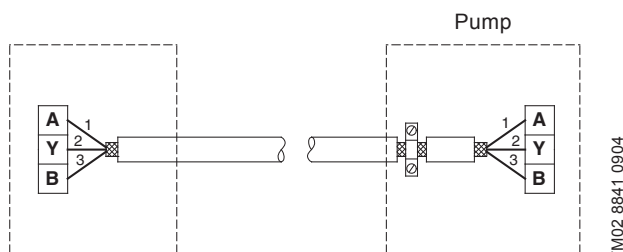

Fig. 16 Connection with screened 3-core cable
- If the unit has no cable clamp as shown in fig. 16, leave the screen unconnected at this end.